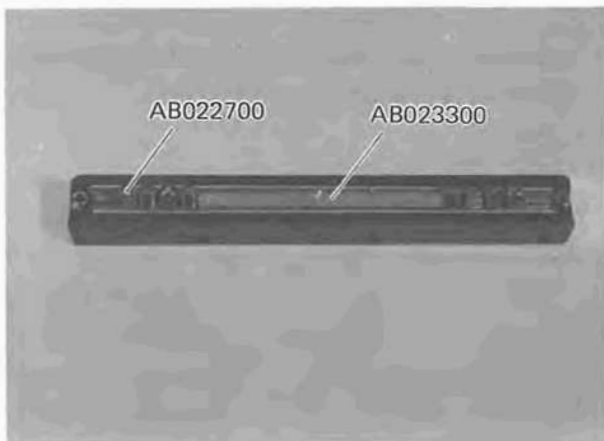

Fig. 4-6
4-1-6 Mount two Wire Guides AB023400, eight Rollers AB022700 and Spacer AB023300 on Ball Guide AB024800. (See Fig. 4-6.)
- 4-1-8 Assemble Ball Guide (Fig. 4-6) in the following manner: